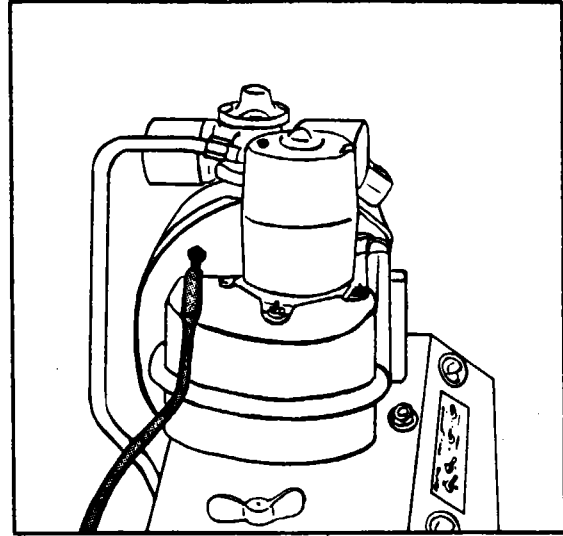

Figure 13-22. Ventilating Air Blower Check
1. Insert the wider outlet end of the two diameter tubing adapter supplied with the test stand into the end of the rubber tubing attached to the reservoir outlet tube. (Refer to Figure 13-22.)